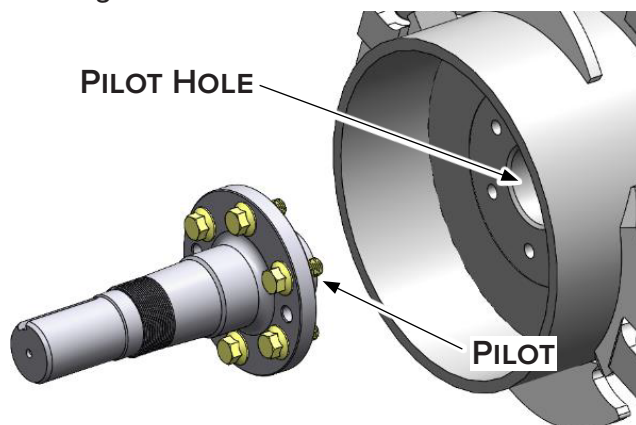

Figure 26
4. Before installing the bearing housing covers, inspect the shaft run out. Maximum run out is ± 0.015 inches (± 0.381 mm). See "Check Shaft" in Figure 26.